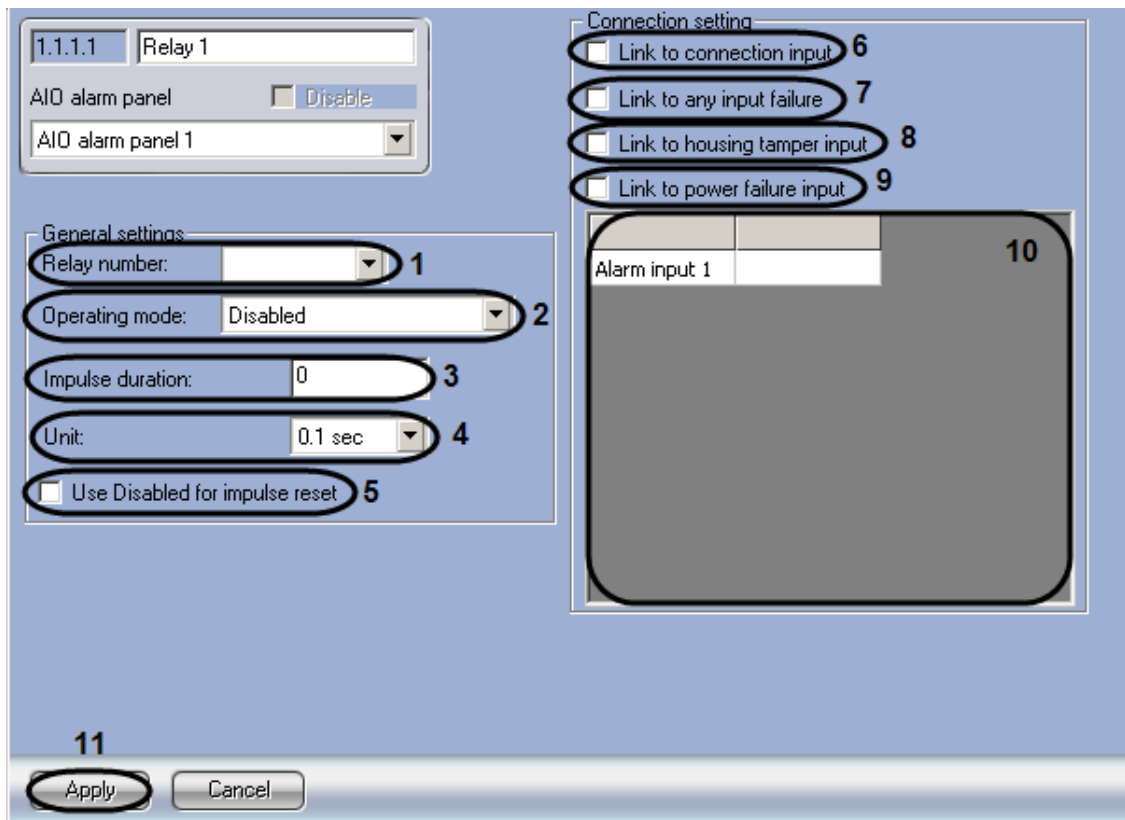

Fig.3.5-6 Relay object's settings pane
1. Go to the **Relay** object's settings panel (Fig.3.5-6).
2. From the **Relay number** dropdown list select the relay's index number (see Fig.3.5-6, 1).
3. From the **Operating mode** dropdown list select the relay's operating mode (see Fig.3.5-6, 2, Table 3.5-2).
- 4.1 From the **Unit** dropdown list select the units of measurement for the impulse duration (see Fig.3.5-6, 4).
- 4.2 In the **Impulse duration** field, specify the duration (in terms of the selected units of measurement) of the impulse (see Fig.3.5-6, 3).
5. To make it possible to reset the impulse when changing the operating mode to **Disabled**, set the **Use Disabled for impulse reset** option (see Fig.3.5-6, 5).
6. Set the **Link to connection input** option if the relay should react to the state of the **Connection** input (see Fig.3.5-6, 6).
7. Set the **Link to any input failure** option if the relay should react to a fault on any of the inputs (see Fig.3.5-6, 7).
8. Set the **Link to housing tamper input** option if the relay should react to the state of the alarm panel's cabinet (see Fig.3.5-6, 8).
9. Set the **Link to power failure input** option if the relay should react to the state of the alarm panel's power supply (see Fig.3.5-6, 9).
- Configure the interaction between the relay and the alarm inputs (see Fig.3.5-6, **10**). In the **Action** column, select the alarm input states in which the relay will close (Table 3.5-3).
- To save any changes made, click the **Apply** button (see Fig.3.5-6, **11**).
7. To save any changes made, click the **Apply** button (see Fig.3.5-6, 11).